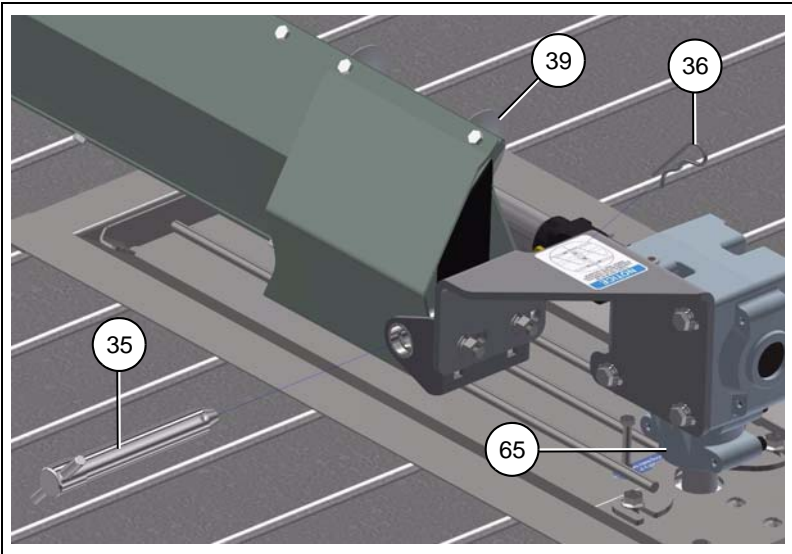

Figure 4Y
1. Install the sweep (39) onto gearbox sweep arm (65) using sweep pin (35) and secure with 3" hair pin (36). (See Figure 4Y.)